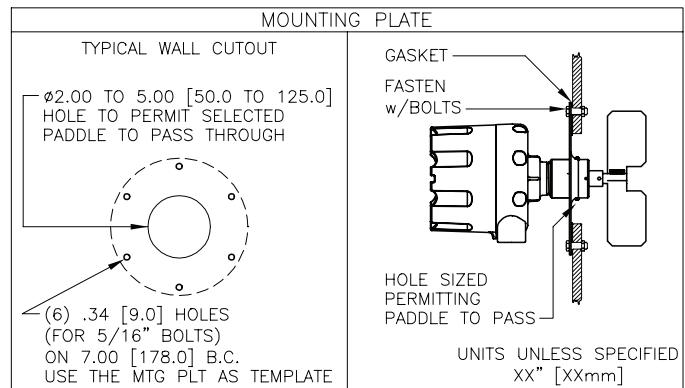

Figure 4
- 2) Plate Mounting** - Using the gasket provided with the mounting plate as a template, drill six holes at the diameter applicable to the attachment method being used. Drill six clearance holes at 11/32 inch (9 mm) diameter for use with 5/16" bolts. The bolts may be secured by tack welding the bolt heads to the vessel, or by an adjoining nut. Cut a hole (suggested size 2-5 inches (50-125 mm)) centered within the bolt circle to allow an attached paddle to fit within the bin. Attach gasket and mounting plate to the vessel positioning the conduit entrance to eliminate the possibility of any and all moisture infiltration. (See Figure 4)